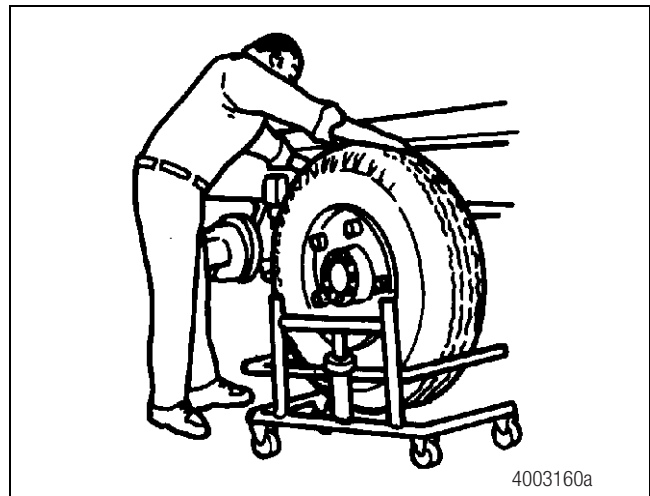

Figure 4.10
3. Remove the tire and wheel assembly. Figure 4.10.